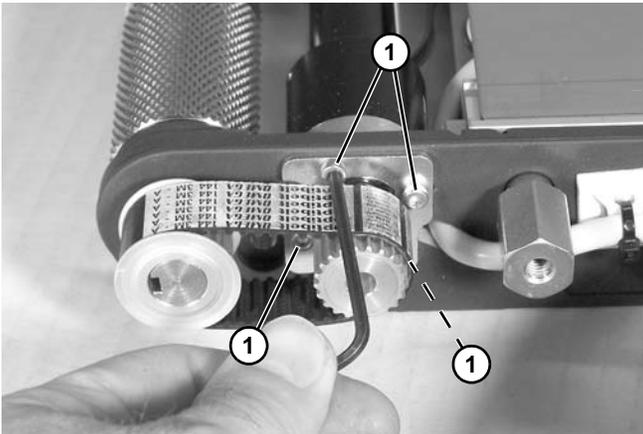

Figure 96
4. Loosen four clamp plate screws (Figure 96, item 1).